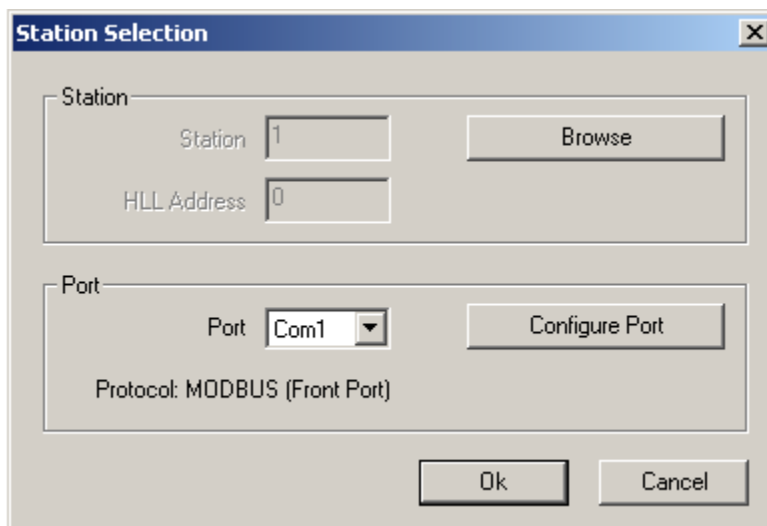

Figure 5-13 Select Station dialog
The Select Station to download to dialog displays in all download procedures and the Select Station to upload from dialog displays in all upload procedures. Use these dialogs to select the proper communication port and station address to download to, or upload from, a specific station. See Figure 5-13.
2. Click the **Monitor Mode** button to display the dialog in Figure 5-13. Select the Station and Port as described earlier in this chapter.